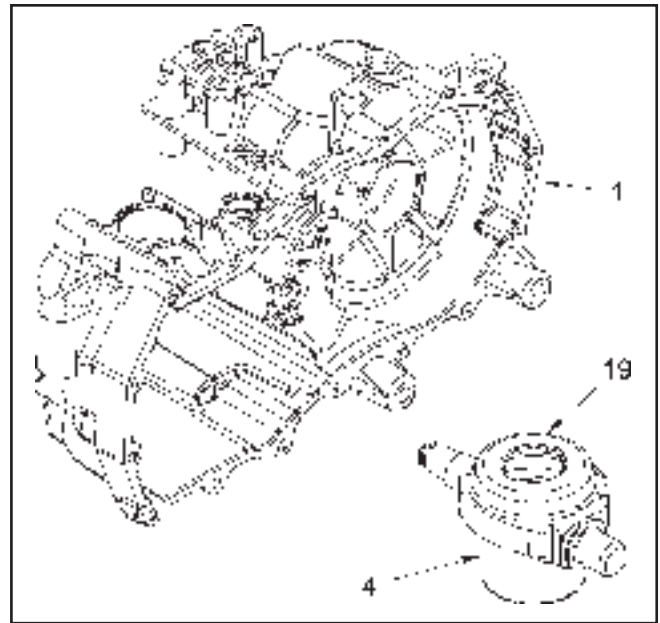

Figure 17.
7. **(See Figure 17)** Remove the swashplate (19) and pump cylinder block (4) as one assembly. NOTE: Removal will be aided by applying a small amount of pressure on the trunnion mounted swashplate towards the center section. Also note that the control arm (23, page 19) may be loosely assembled at this point to assist in swashplate removal. While gently removing the swashplate and block assembly, keep the block face flush with the center section to minimize damage to the running surface.